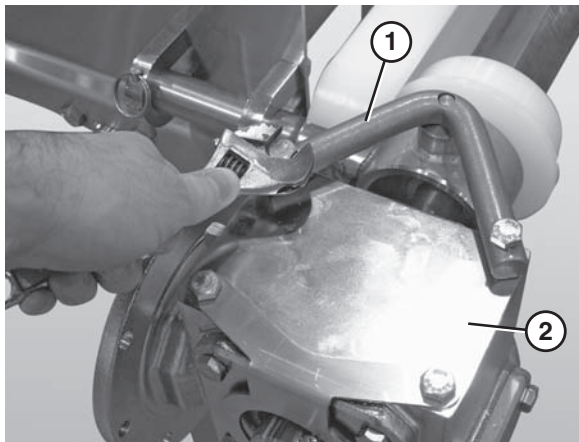

Figure 50
5. Unbolt the gear reducer mounting bars / posts (**Figure 50, item 1**) from the gear reducer (**Figure 50, item 2**) (horizontal drive shown in figure).